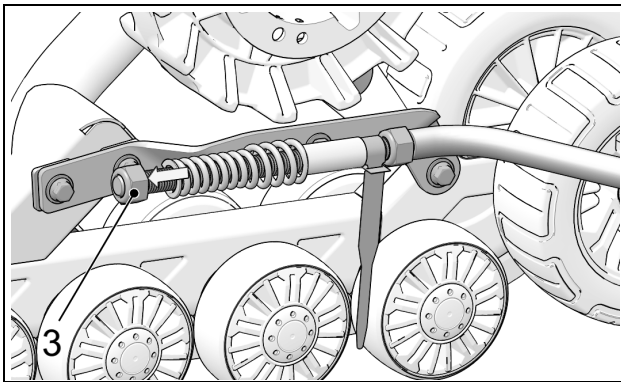

Figure 11
**NOTE:** Actual Rear Anchor bracket (2) installed on vehicle may differ from the one in the illustration.
- Loosen nut (3) compressing stabilizing rod spring. See Figure 11.